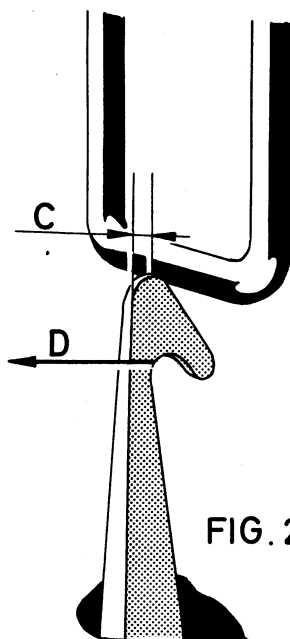

FIG. 2
- A First check that the tension of the safety catch spring is sufficient. A pull of min 0.1 kp (.22 lb) at the top of the catch (see fig 2) should be necessary before it can be moved from the locked position.
- B Then check that when the bonnet is closed, the hasp meets the safety catch as near to the top as possible without the lip being deflected forwards out of the way. See fig 2.